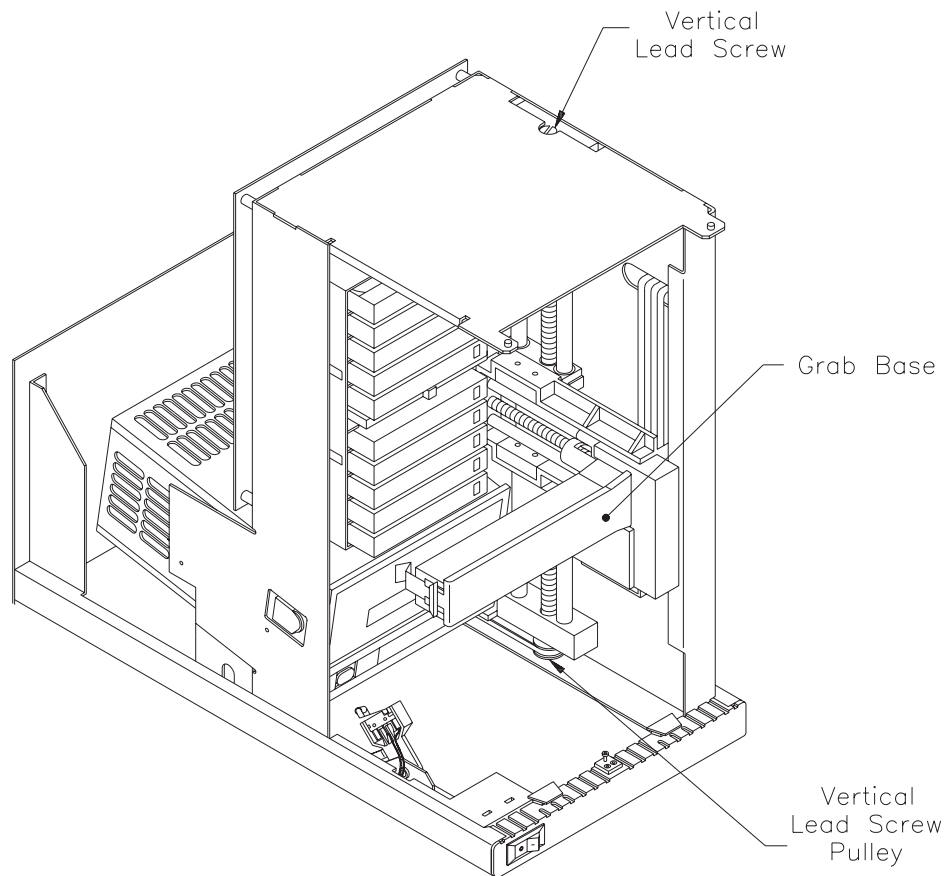

Figure 5-1 Moving the grab base (cover and upper bezel not shown)
2. Locate the vertical lead screw on the top of the EXB-10i, as shown in Figure 5-1.
1. Locate the vertical lead screw pulley at the base of the cartridge handling mechanism, as shown in Figure 5-1.